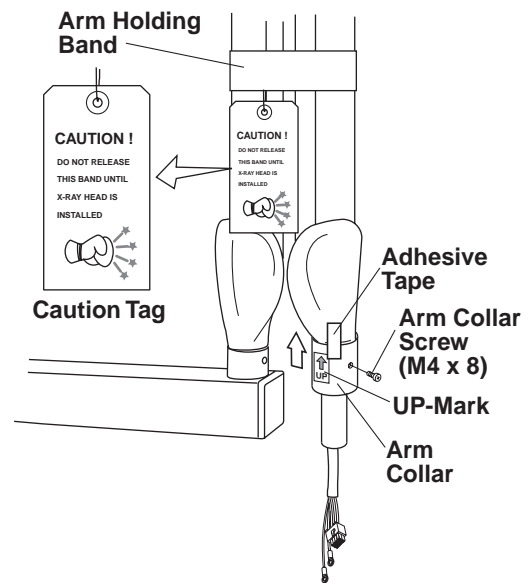

Fig.3-14 Setting Arm Collar on Balance Arm
1. Remove the arm collar screw (M4 x 8mm) from the arm collar. Slide the arm collar upward and temporarily hold it in position with adhesive tape. (Fig.3-14)